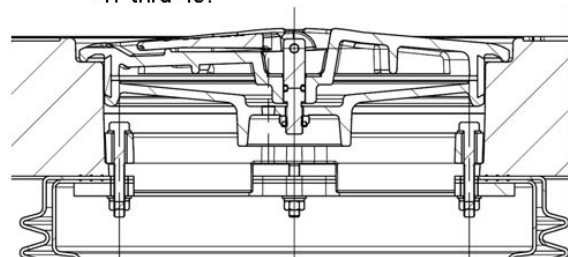

Figure 47
65. Using 209398 rings attach upper ring of spill containers to 209398 rings using 5/16 bolts, washers, lock washers, and nuts. Tighten bolts and nuts to 15-20 in-lbs. See Figures 47 thru 49.